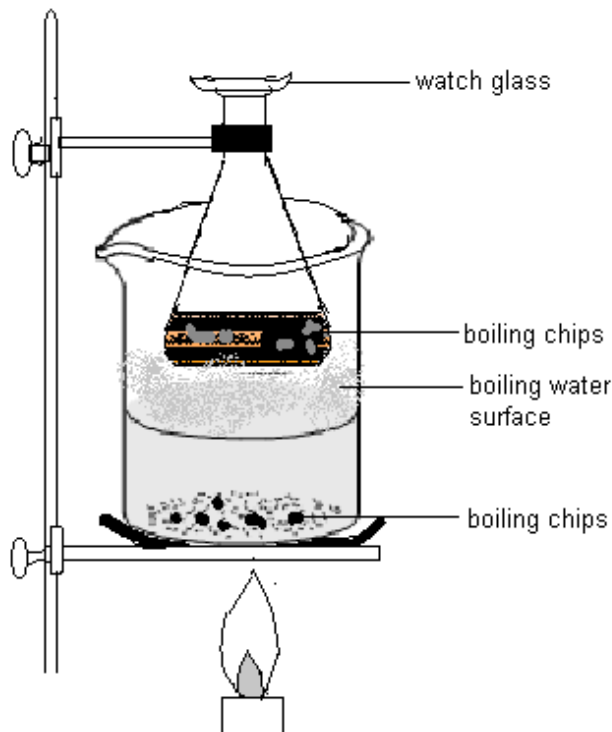

Figure 13.2: Apparatus for the preparation of the soap
5. Arrange the apparatus as shown in Figure 13.2. If a hot plate is used, support the flask over a beaker of water placed on the hotplate surface.